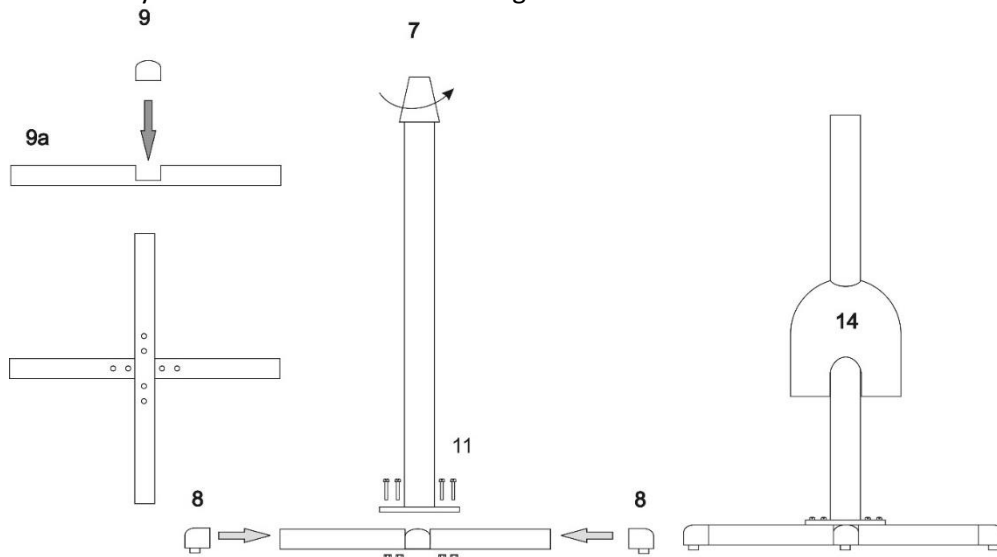

Fig 3
3. Assembly the fan column as shown in Figure 3